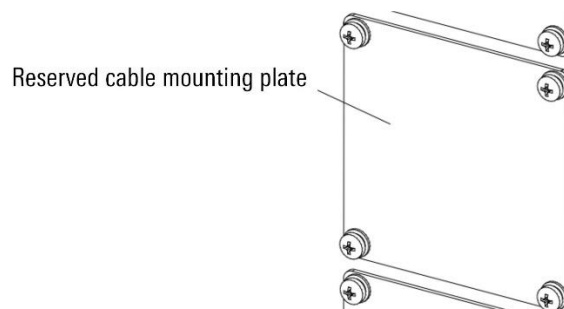
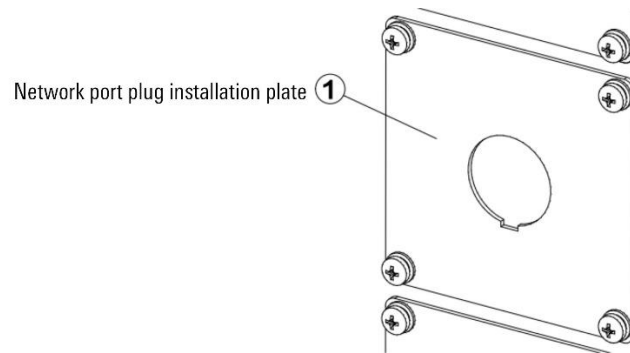

Figure 13-3 Reserved cable installation plate
Figure 13-4 Network port plug installation plate
- Step1. Remove the original reserved cable mounting plate (refer to Figure 13-3) with a cross screwdriver, and install the ① network plug mounting plate (refer to Figure 13-4) on the cabinet.